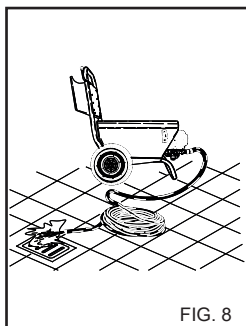

FIG. 8
After using a detergent, the detergent intake circuit must be flushed out with clean water (fig. 8).
To eliminate any impurities or air bubbles from the water circuit we advise starting the cleaner for the first time without the lance and letting the water run out for a few seconds. Impurities could block the nozzle and cause malfunction (Fig. 8).
4) After using with detergent, flush out the intake circuit; place the detergent suction hose (fig. 8) in a tank of clean water and let the pump run for 1 minute with the dosing tap turned fully on and the lance in detergent delivery condition.